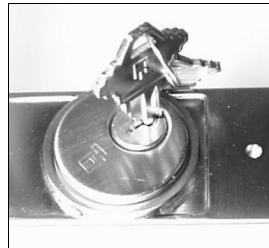

Fig. 1a: Insert key 1/2 way into cylinder and screw in
- 1a. **Insert key *half-way* into the cylinder, then screw it in.** See Fig. 1a. If cylinder will not seat flush, the cylinder back stop screw may require loosening. Cylinders that are longer than 1 1/4" will require a collar, which will stick out from the surface when correctly installed. Please see the cylinder information on the previous page.